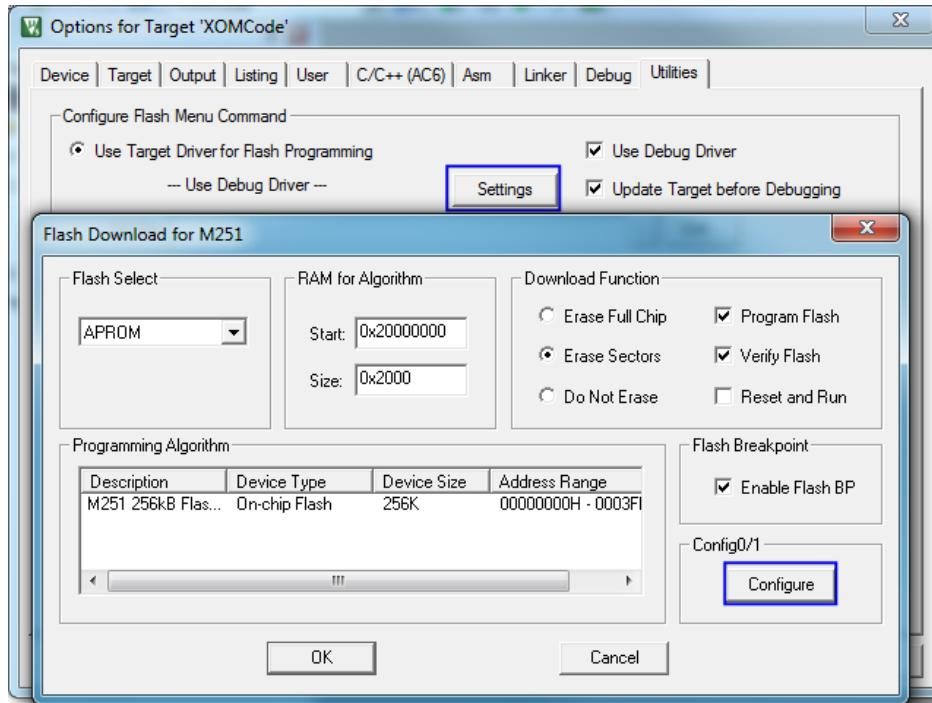

Figure 3-3 M251 Settings
3. Click “Option”->“Utilities”->“Settings” button to enter *Flash Download* page. Click the “Setting” button in the “Chip Setting” to enter the “M251 Settings” page, as shown in Figure 3-3.